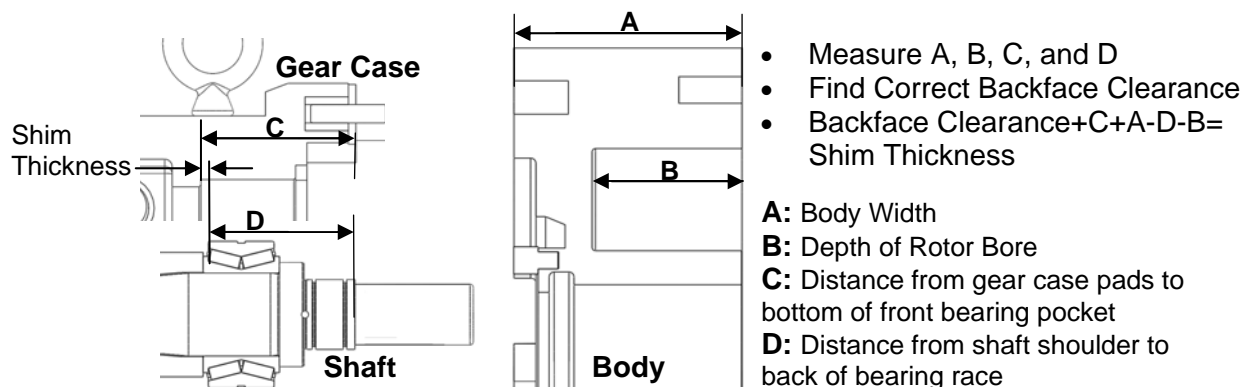

Figure 38: Calculating Shims
3) Shims located on the shaft behind the front bearing control the backface clearance of the pump; the space between the body and the rotor. If neither the shafts or bearings are being replaced, use the shims (if properly marked) removed at disassembly and reuse making sure they are installed in the correct bores. If replacing shafts or bearings, a process of calculating the required shims is necessary. Use Figure 38 and the following equation to calculate. To find the correct backface clearance see Table 8, page 28.